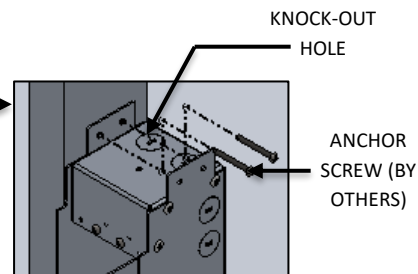

FIG. 12- DETAIL SHOWING KNOCK-OUT HOLE AND SCREWS
5. Remove the appropriate knock out for desired wire entrance location as shown in FIG. 12.